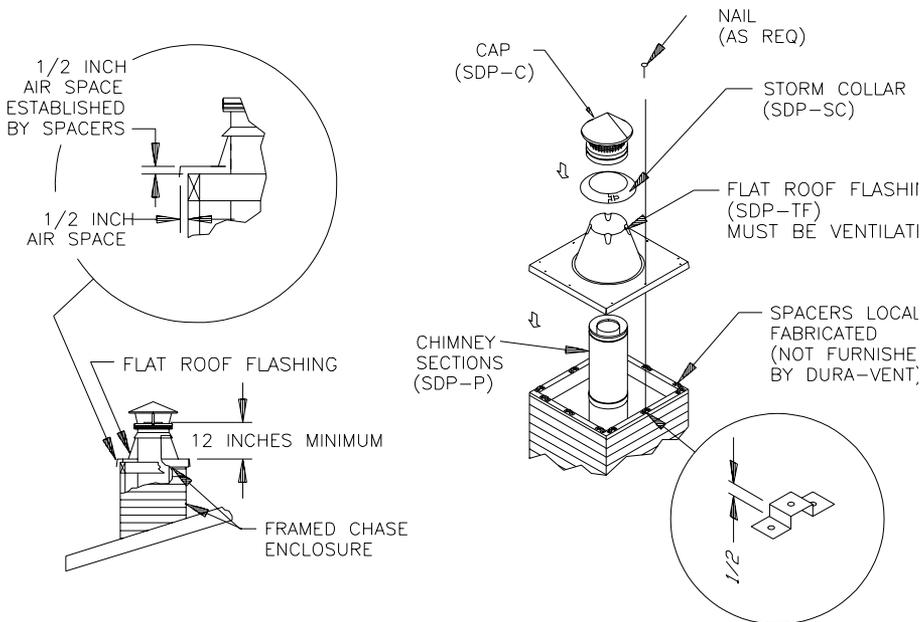

Fig 29
7. Install Chase Cover. If a chase enclosure has been constructed, installing the chase cover requires some special considerations, in that a 1/2-inch air gap must be established between the cover, and the framed chase top. In addition, a 1/2-inch air gap should exist between the hole in the cover, and the **Chimney Pipe Sections**. Figure 29 displays in some detail, how these air gaps are established with locally fabricated spacers and covers. These are not furnished by Simpson Dura-Vent, but may be made from 28 gage or heavier sheet metal. Should the installer elect to use **Flat Roof Flashing**, (which is a stock item), the air spaces are still required. When installing the **Storm**